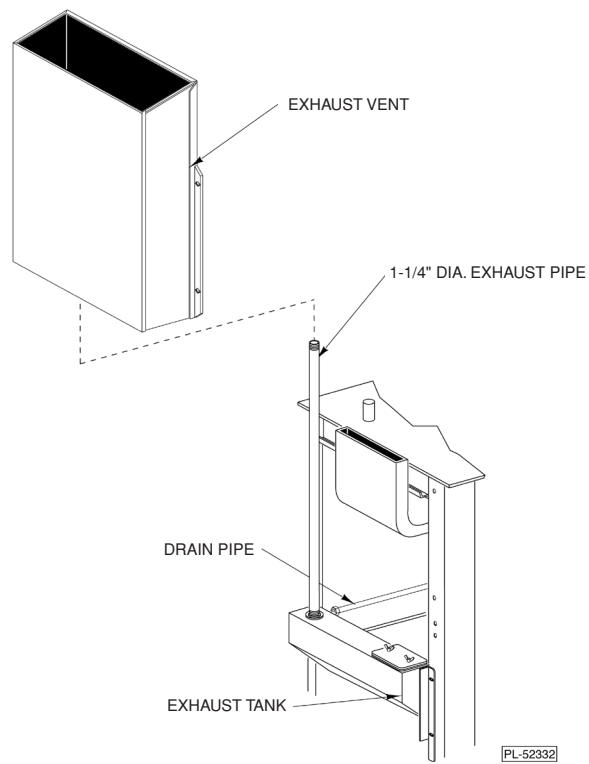

Fig. 21
1. Remove 4 screws holding exhaust vent in place (Fig. 21) and lift exhaust vent up.
2. If exhaust pipe (Fig. 21) hinders removal of the exhaust tank, unscrew pipe and remove it.
3. Disconnect drain pipe (Fig. 21) that runs from pressure-regulator housing to exhaust tank at the union.
5. Remove 4 screws holding exhaust tank in place (see Fig. 21) and remove exhaust tank.